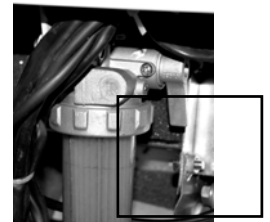

Figure 4
4. Turn the fuel valve to the "on" position (lever is UP) (See Figure 4, which shows OFF position – the lever is DOWN)).